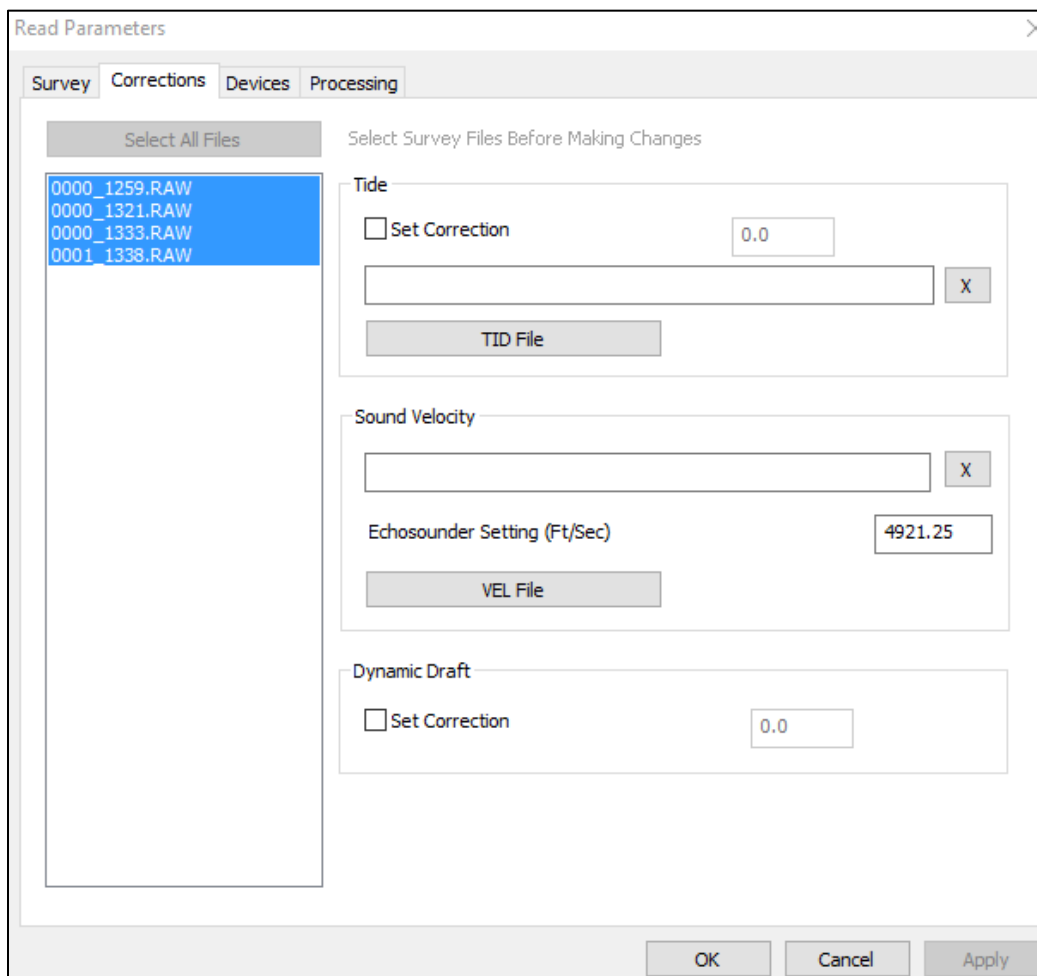

Figure 17.—Corrections tab in the Read Parameters window in SBMAX64.
2. Under the **Corrections** tab in the Read Parameters window, the user can upload sound velocity files from the CastAway data collection by clicking on “VEL File” and selecting the sound velocity file(s) (figure 17).